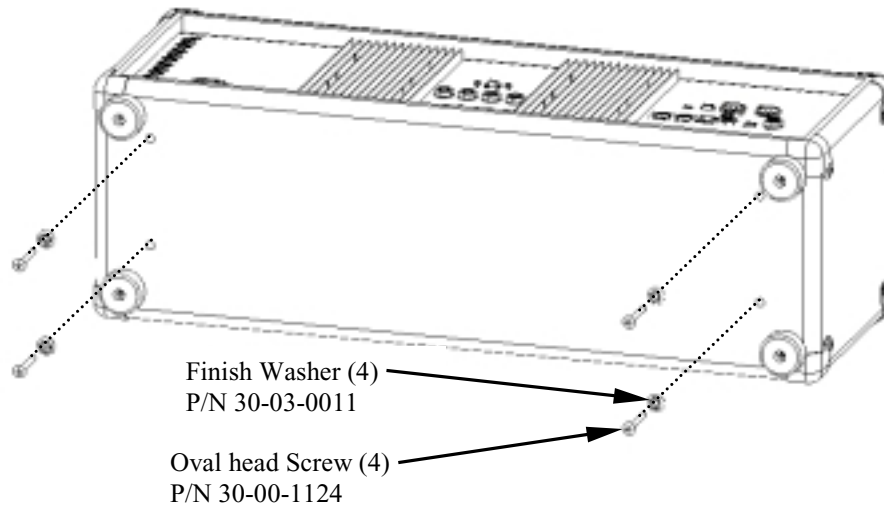

Figure 29
- c. Rotate Cabinet (face down) and install Chassis mounting screws through bottom of Cabinet. See figure 29.